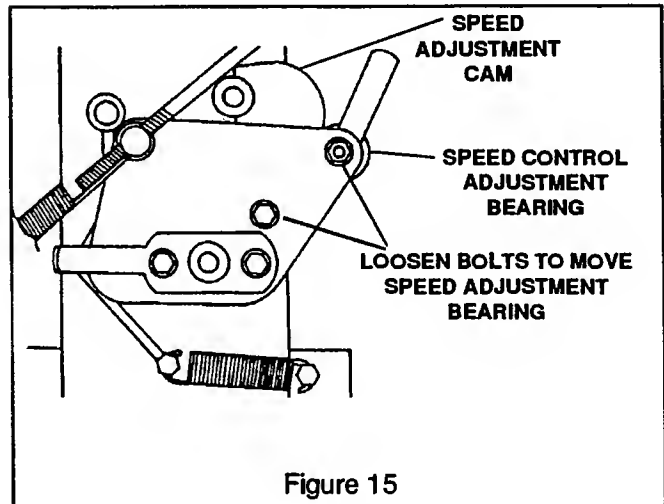

Figure 15
1. Loosen the two bolts securing the speed adjustment bearing to the bellcrank. (See figure 15)
3. Place the speed adjustment bearing where it just contacts the speed adjustment cam. (See figure 15)
8. If the machine pulls to the left, on the left side of the bellcrank, loosen the two securing bolts and move the adjustment bearing 1/16" away from the cam and retighten the bolts. Restart engine and check for tracking straight. (See figure 15)